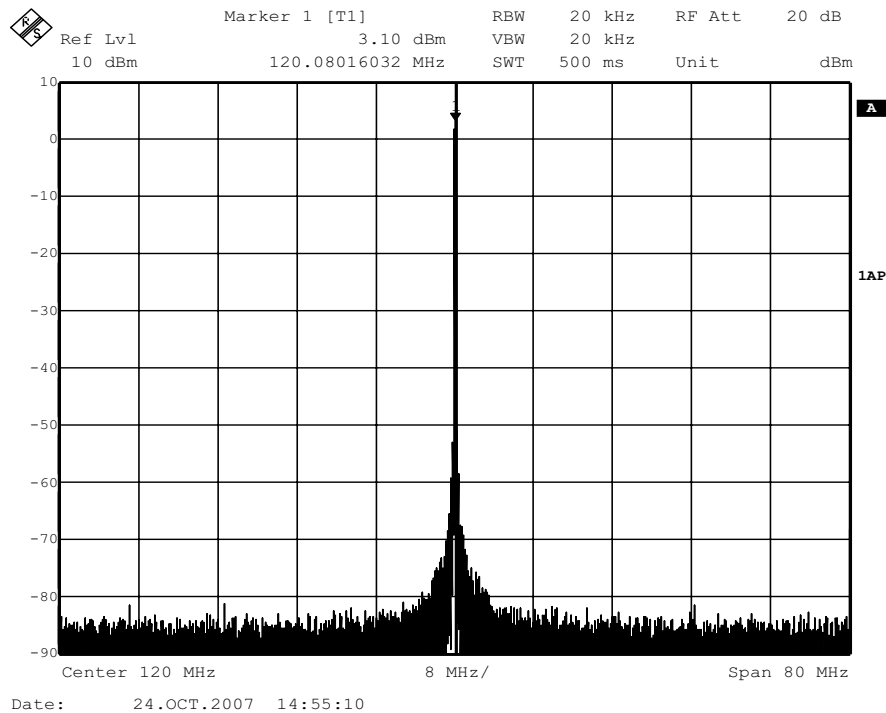

Figure 50. DAC Stand Alone Test Spectrum
5. Verify there is an output tone at SMA connectors J11 and J12 at 120 MHz with approximately 4 dBm power and 70 dBc SFDR between 80 and 160 MHz per Figure 50.